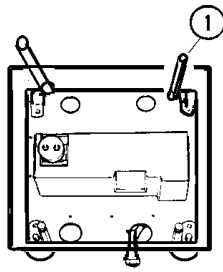

Figure 1
- 1) Refer to Figure 1, Item 1 is the corner overload stop which is typical of four corners. The overload stop consists of a bolt threaded into a standoff. The sub-platter should bottom out on this bolt at approximately 110% of rated capacity.